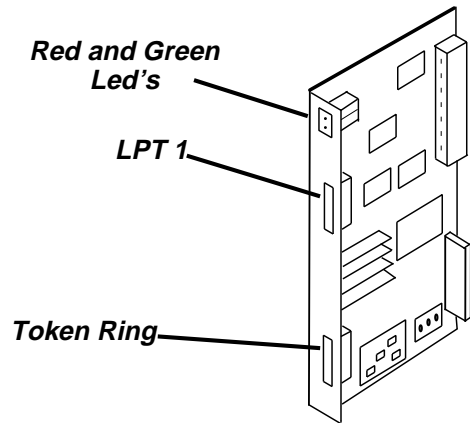

Figure 7 - Token Ring Connector Locations
15. Assist the customer (If required) in connecting the Token Ring network cable and printer cable (optional) to the Fax Server PWB (Refer to figure 7).